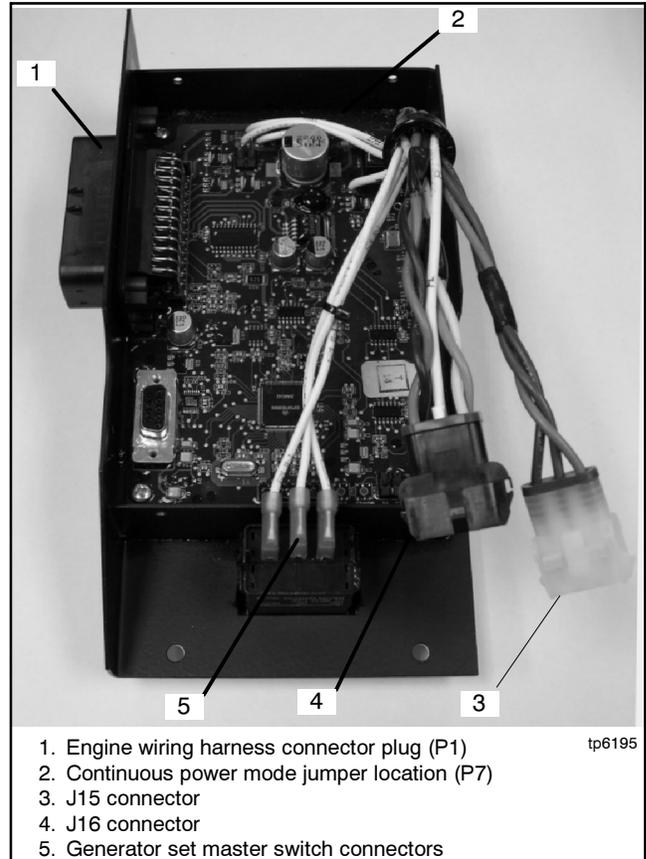

Figure 6-2 Advanced Digital Control Connections (Shown with the Back Cover Removed)
- a. Disconnect the engine wiring harness connector P1 plug (35-pin) from the controller. Disconnect the J15 and J16 connectors. See Figure 6-2.
- a. Note the labels on the three leads connected to the generator set master switch for reconnection later. Disconnect the leads at the pink connectors. See Figure 6-2.
- b. Remove the cover screws and remove the controller's back cover. See Figure 6-2.
4. Locate the P7 connector near the top of the controller. See Figure 6-2. Remove the jumper from pins 1 and 2 of the P7 connector. If the P7 connector has three pins, connect the jumper across pins 2 and 3 for storage.